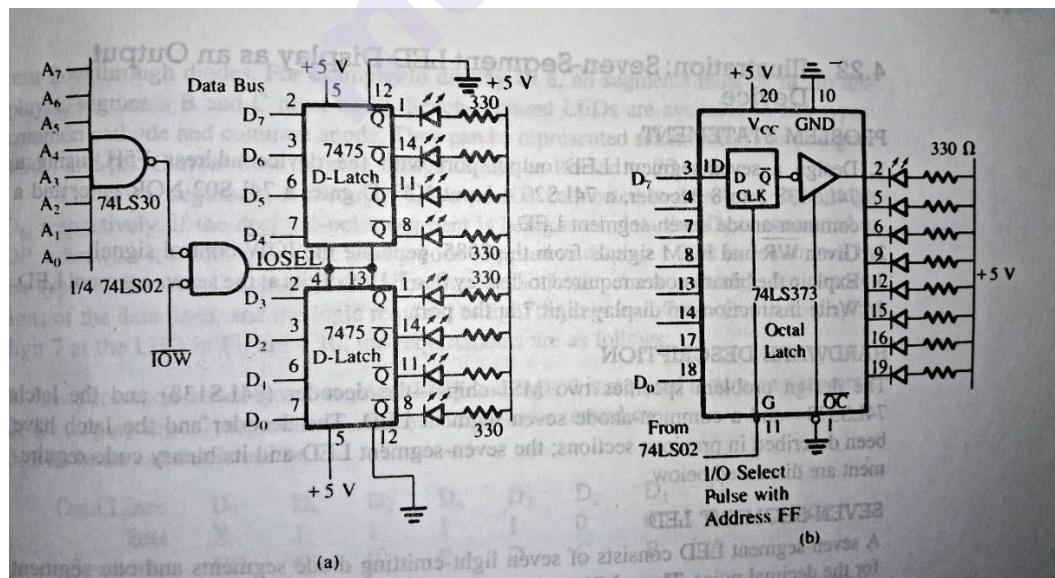

Figure 4.8 :- Interfacing LED Output Port Using the 7475 D-Latch (a) and Using the 74LS373 Octal D-Type Latch (b)
Figure 4.8 uses the 74LS373 octal latch an interfacing device, and both circuit(a) an (b) are functionally similar. The 74LS373 includes D-latches(flip-flops) followed by tri-state buffers. This device has two control signals: Enable (G) to clock data in the flip-flops and Output Control (OC) to enable the buffers. In this circuit, the 74LS373 is used as a latch; therefore the tri- state buffers are enabled by grounding the OC signal.